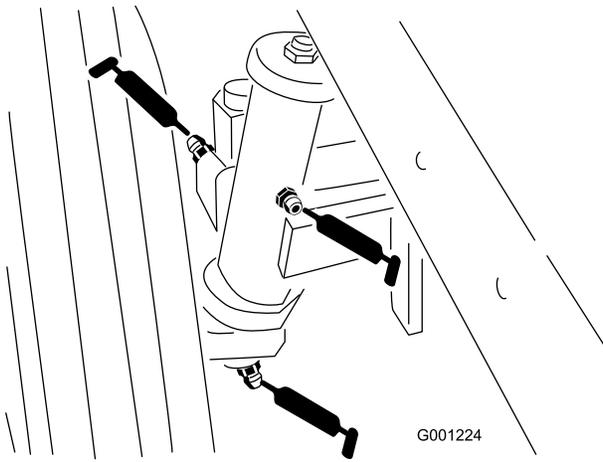

Figure 40
- Rear wheel spindle bushings (Figure 40)